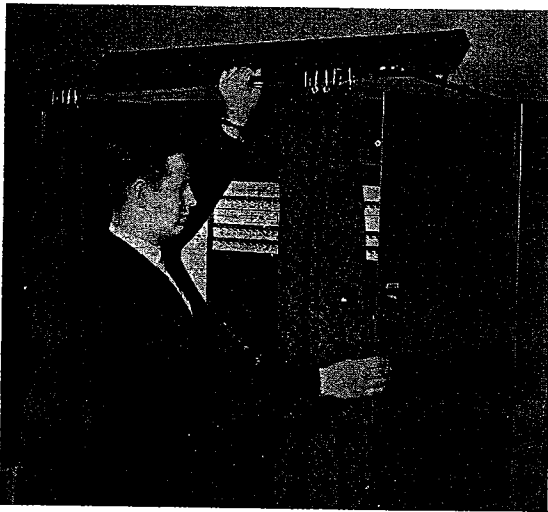

Figure 5. Raising Curtain Rail
2. Raise the Curtain Rail and fit it into the brackets on the Front Doors. (Figure 5)